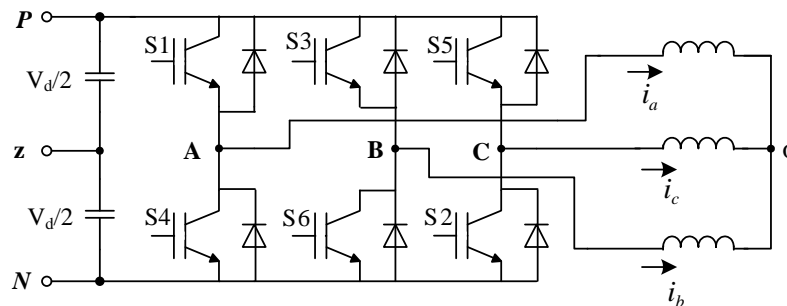

Figure 1.1 Two level voltage source inverter
1. a. The voltage source inverter shown in figure 1.1 is modulated by Sinusoidal Pulse Width modulation. With reference to figure 1.1 and suitable voltage and current waveforms explain the effect of dead-time on voltage v_{Az} . Voltage v_{Az} is measured between terminals A and z as shown in figure 1.1.
- b. For the case in a), represent the error voltage $v_{err}(t) = v_{Az_no_DT}(t) - v_{Az_DT}(t)$, with an equivalent square wave. $v_{Az_no_DT}(t)$ and $v_{Az_DT}(t)$ denote, respectively, the output voltage without dead-time and with dead-time inserted in turn on gate signals. The output voltage is measured between terminals A and z, as shown in figure 1.1.
- d. A Voltage Source Inverter shown in figure 1.1 is modulated by Sinusoidal Pulse Width Modulation SPWM. Frequency of the modulation signal of the SPWM modulator is 400Hz. IGBT devices are switched at a frequency of 10kHz and a dead-time period of $2\mu s$ is introduced into the turn on signals. The inverter is supplied from a 600V dc source. A peak value of the current drawn by the load is 20A. The inverter is in linear mode of operation and operates at the maximum output voltage.